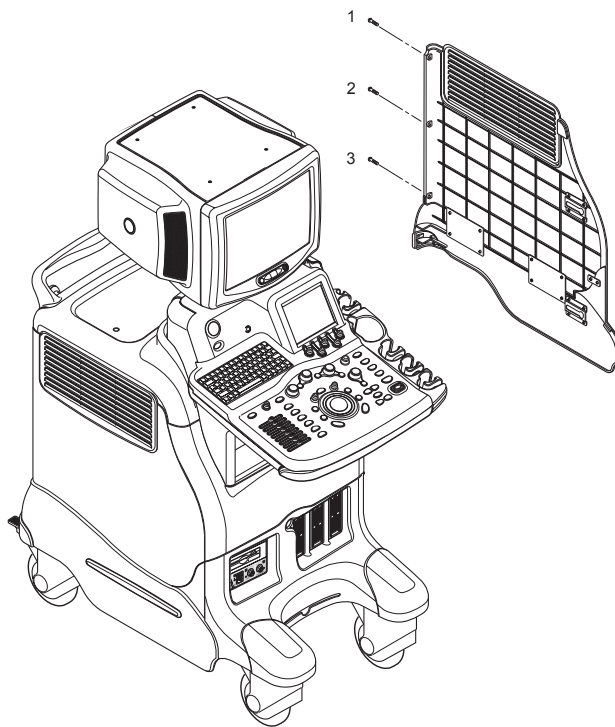

Figure 8-77 Removing the right cover
- 3.) Remove the Right Cover. Refer to section Figure 8-77 on page 32.